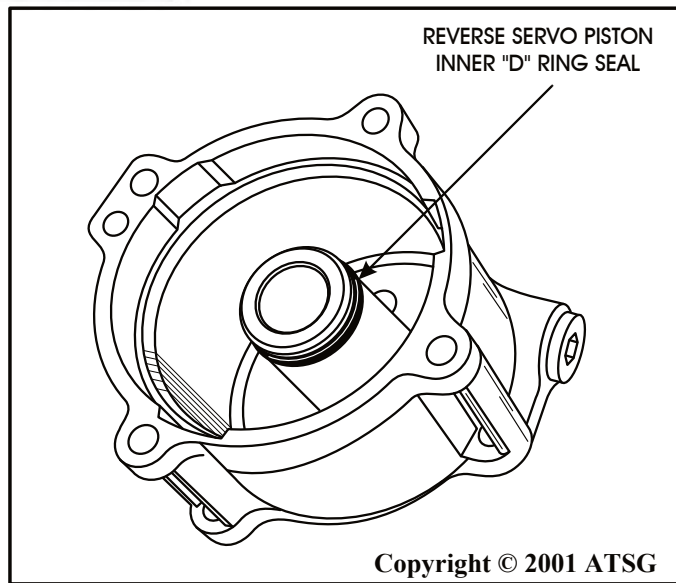

Figure 122
7. Install new reverse servo piston inner "D" ring seal into the groove in reverse servo housing, as shown in Figure 122, and lubricate with a small amount of Trans-Jel®.